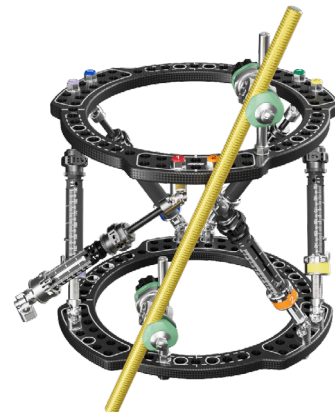

Figure 254
- When the construct is adequately reinforced, adjust the identified strut **(Figure 254)** by detaching one end of the strut from the ring, preferably the acute end of the strut.